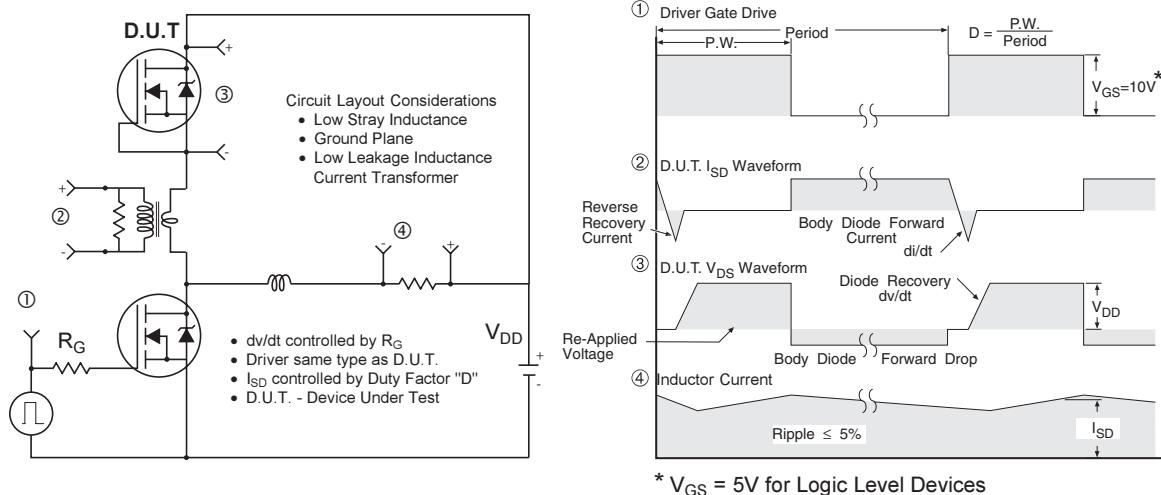

Fig 20. Peak Diode Recovery dv/dt Test Circuit for N-Channel HEXFET® Power MOSFETs
**Fig. 16.** Threshold Voltage vs. Temperature**Fig. 17 -** Typical Recovery Current vs. d_i/dt **Fig. 18 -** Typical Recovery Current vs. d_i/dt **Fig. 19 -** Typical Stored Charge vs. d_i/dt **Fig. 20 -** Typical Stored Charge vs. d_i/dt